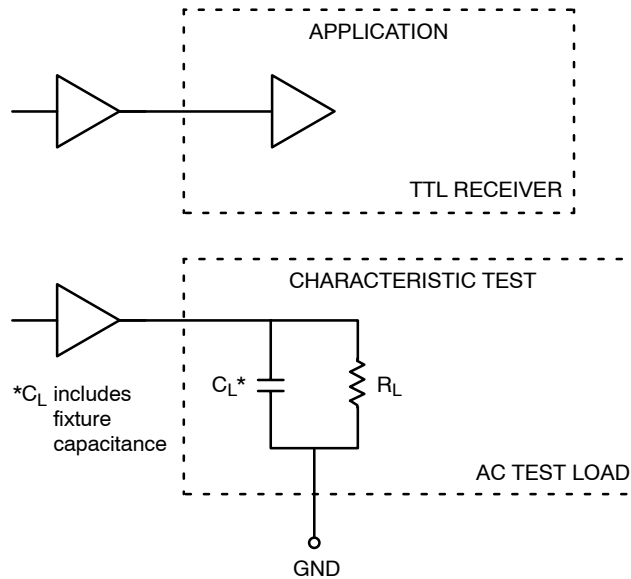

Figure 1. TTL Output Loading Used for Device Evaluation
1. Output Voltage = 1.0 V to 2.0 V. $R_L = 500 \Omega$ to GND and $C_L = 25$ pF to GND. Refer to Figure 1.